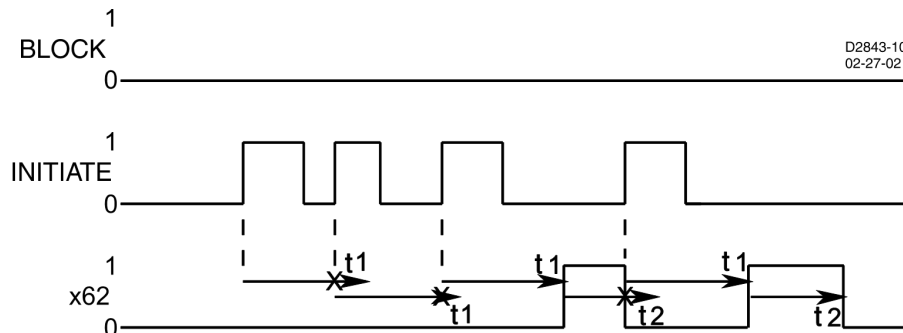

Figure 13-3. Mode 3 (One-Shot Retriggerable) Timing Example
Step 3: Use the RS-LGC command to obtain an SER report and verify that the following actions were logged. These events are illustrated in the timing diagram of Figure 13-3.